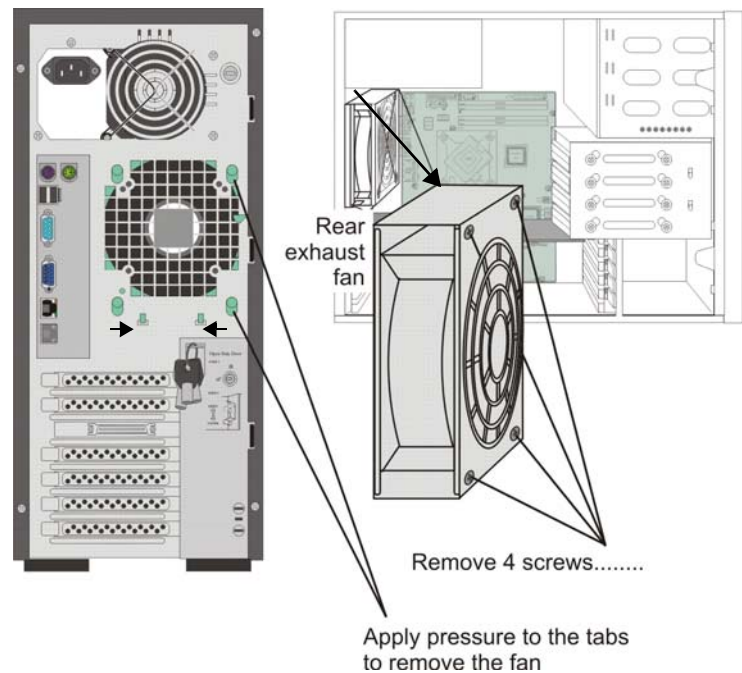

Figure 39: Rear fan
5. Press the two locking tabs, protruding through the outside of the rear of the server, outward. See Figure 39 on page 124.
7. Remove the four screws that secure the fan to the rear-fan bracket. See Figure 39 on page 124.